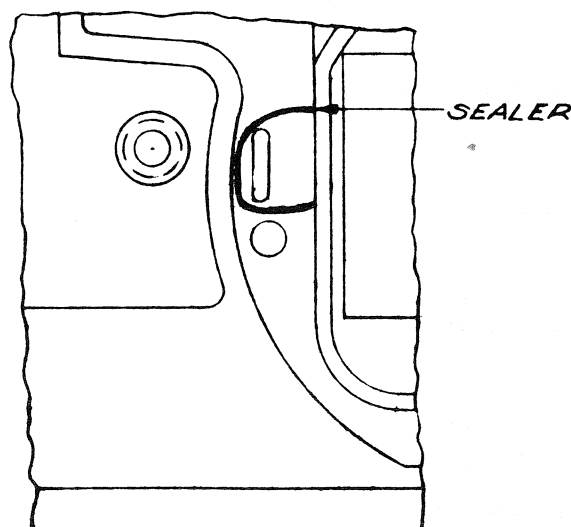

Figure 15. Shutter Release Crank Light Seal
c. Roll a ribbon of sealer EC-947 and place it around the hole in the camera body through which the shutter release crank passes (figure 15).